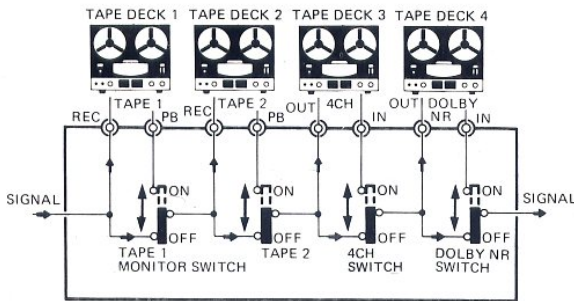

Fig. 14
1. According to the TAPE PB (1, 2), DOLBY NR IN, 4CH IN jacks to which the tape deck is connected, either the TAPE MONITOR 1 or 2 switches, or the ADAPTOR 4CH or DOLBY NR switches should be put ON (see Figs. 14, 15).